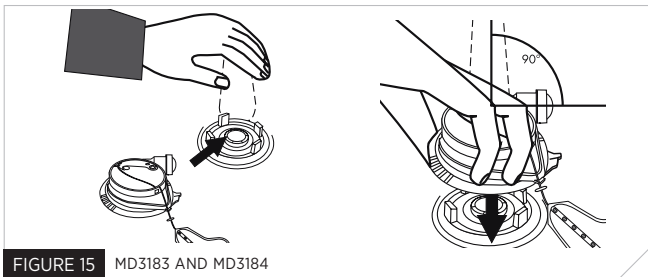
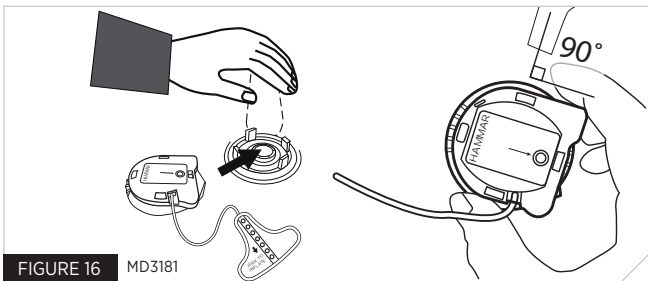

FIGURE 15 MD3183 AND MD3184
FIGURE 16 MD3181
8. Hold the CO₂ cylinder through the fabric of the PFD. Position the replacement cap with the water inlet valve pointing to the right and press firmly onto the inflator body and sealing ring (Fig. 15 for models MD3183 and MD3184, and Fig. 16 for model MD3181).